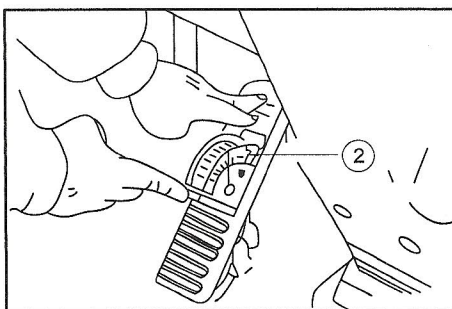

Fig. 05-30
(2) Start the engine, and measure the angle  $\alpha_1$  when the engine is running at low idle speed; and measure the angle  $\alpha_2$  when you step down the pedal with the force of 30kg.
△ When making such measurement, install the angle-rule (2) onto the brake pedal (See Fig. 05-30).